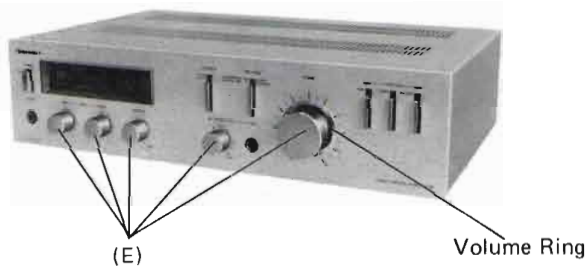

Figure 6
1. Remove five knobs (E) as shown in Figure 6.